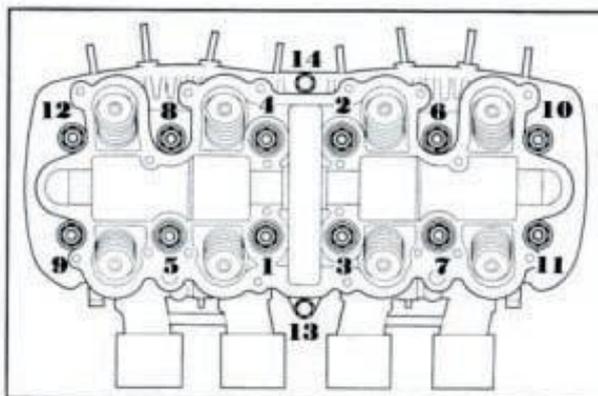

Fig. 83
② Cam chain tensioner mounting bolt
11. Unscrew twelve cylinder head mounting nuts and two 6 mm flange bolts, and remove the head. Loosen the nuts uniformly in the reverse order of tightening shown in Fig. 83.
11. Tighten the twelve 8 mm nuts uniformly with the special tool (Tool No. 07078-32301) to a torque of **2.0~2.2 kg-m**. (14.46~16.63 ft-lbs) in the sequence shown in Fig. 83.